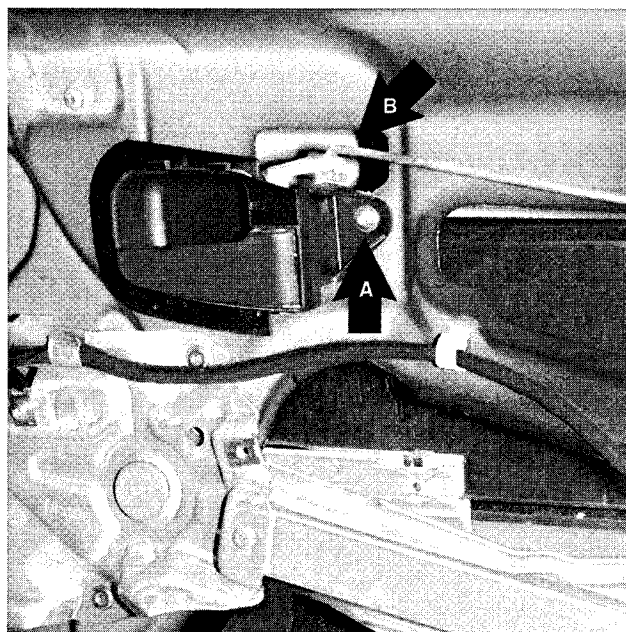

Fig. 2. Inside door handle retaining screw (A) Unhook linkage from handle at B.
6. Remove inside door handle retaining screw. Disconnect inside handle from linkage and remove. See Fig. 2.